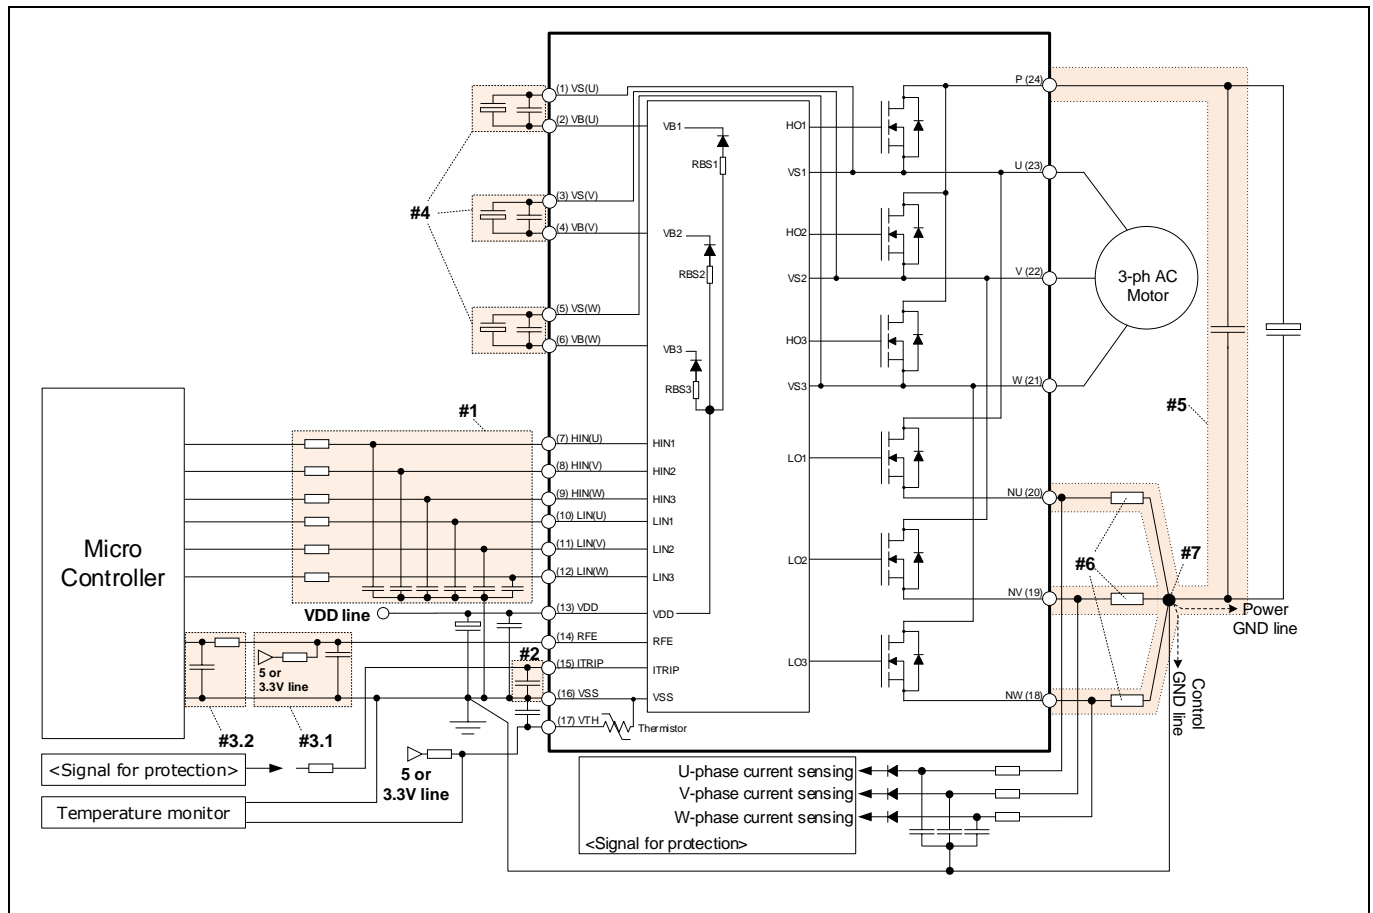

Figure 20 Application circuit example
- The current sensing shunt resistor should be connected between the N pin (source of low-side MOSFET) and the power ground to detect short-circuit current (refer to Figure 20). An RC filter should be connected between the shunt resistor and the ITRIP pin to eliminate noise.
Figure 20 shows a typical application circuit of IM828 for interface schematic with control signals connected directly to a micro-controller.